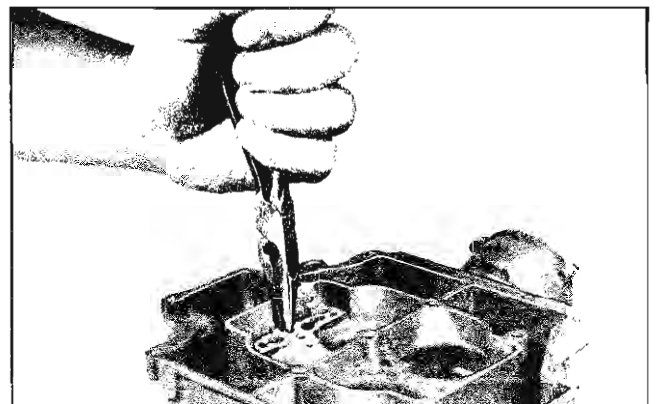

Fig. 6B-49 Removing Pump Discharge Spring
14. Detach piston and link assembly from intermediate choke shaft by removing screw (Fig. 6B-50).
16. Detach choke housing by removing two attaching screws (Fig. 6B-50).